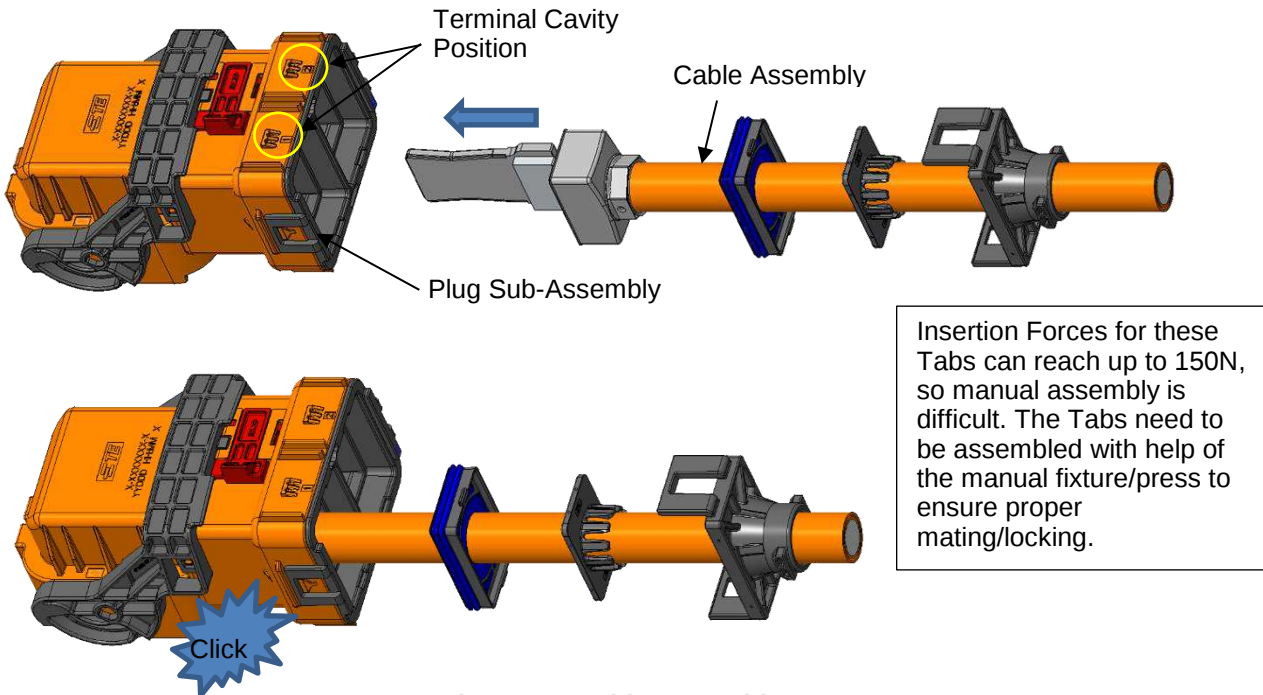

Figure 11: Cable Assembly
9. Install the cable assembly into the plug sub-assembly in the orientation shown until it is fully locked as shown in Figure 11. Verify that the cable assembly is completely installed by gently pulling back on the cable.